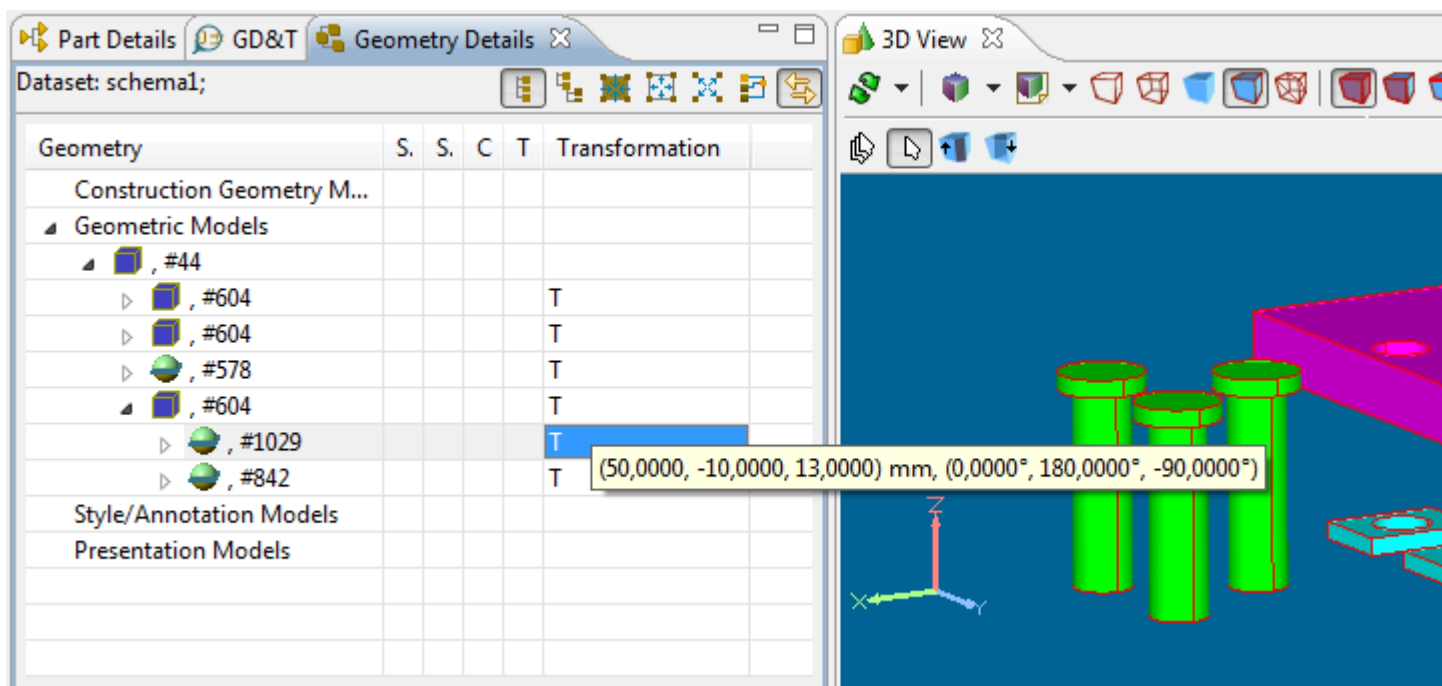

Figure 3. Transformation are changed (tool tip), new transformations applied in 3D View (right side)
- The defined transformation data appears in the **Transformations** column tool tip and the view in the **3D View** is updated (see Figure 3).